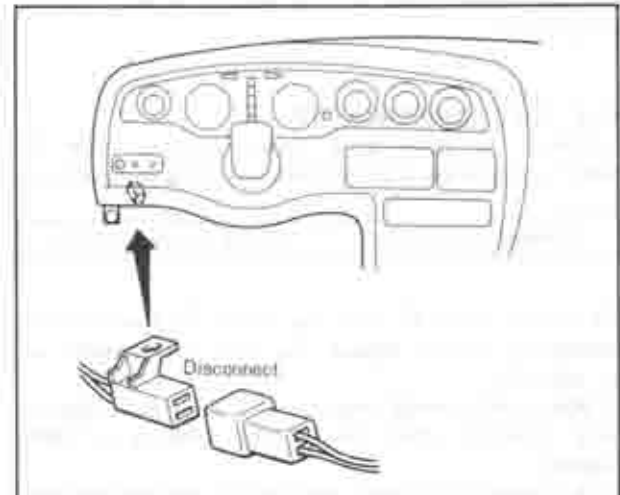

Fig. 4-36 Disconnecting reset connector
3. Connect the reset connector of the EGR maintenance warning system. (for automatic transmission models only) (See Fig. 4-36)